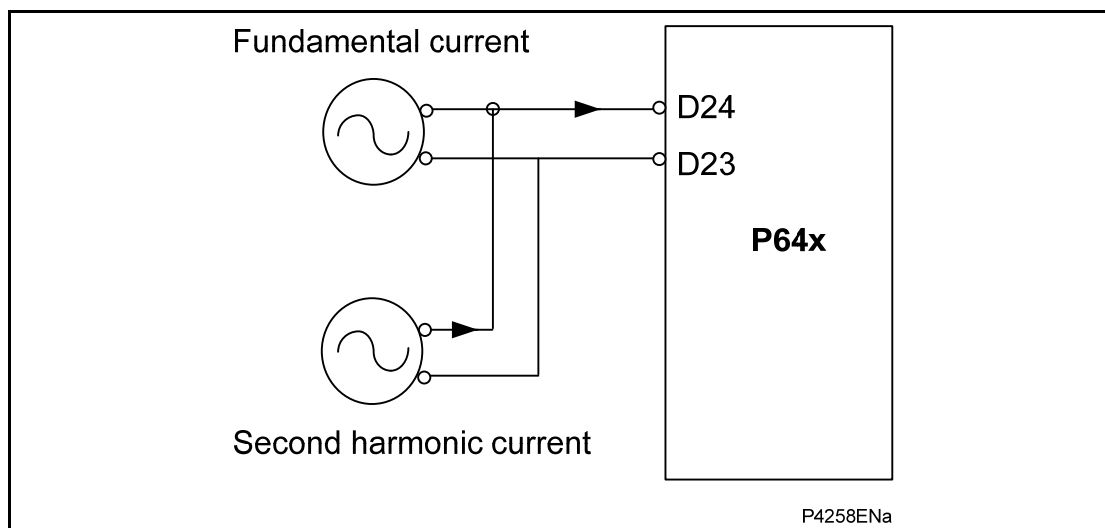

Figure 11: Second harmonic test
1. Connect two current test sources to one phase of any current bias input. Figure 11 shows the current sources connected to A phase of current bias input 1: